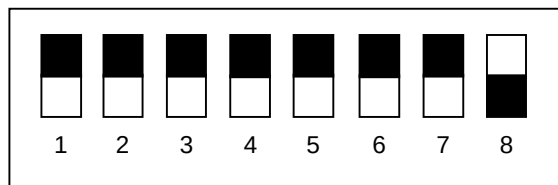

Figure 5.2.3 DIP Switch Setting for Shutting Down CTL ASSY
- ① Set DIP switch No.8 of the CTL ASSY whose board is to be shut down, as shown in Figure 5.2.3.